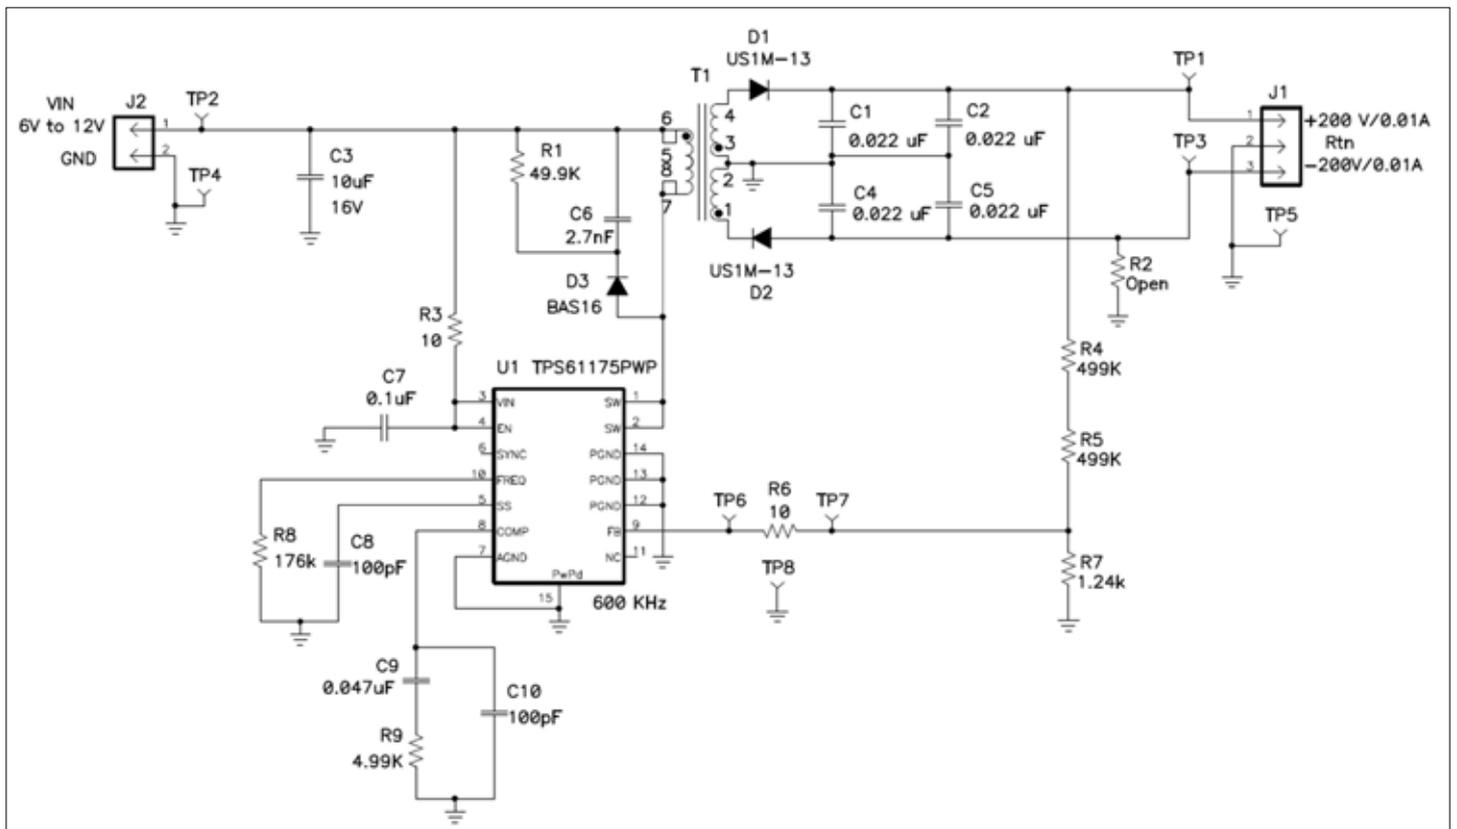

Figure 1: Interwinding capacitance is problematic with high transformer-turn ratio.
**Figure 1** illustrates a circuit that is indicative of the problem. In this transformer, we started with a high turns ratio (40:1) between the secondary and the primary windings.
In this design we have split the secondary windings so that they provide half the voltage of the secondaries shown in figure 1, but we have connected two of them in series for each output. The average AC voltage on the lower-voltage winding remains